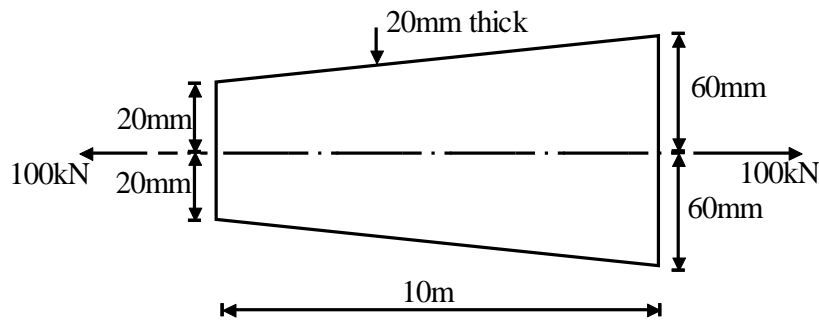

Fig. 1
- b) Compute the total elongation caused by an axial load of 100kN, apply to a flat bar 20mm thick, tapering form with of 120mm to 40mm in a length of 10m. As shown in figure. 1 **8**